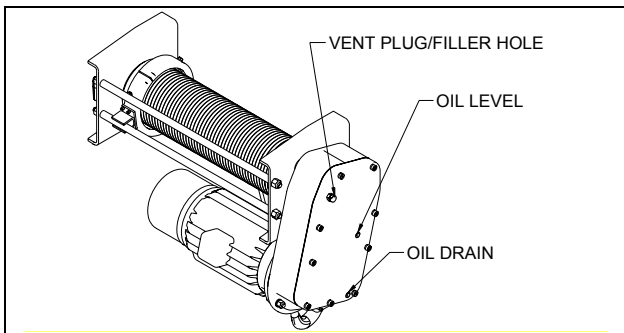

FIGURE 4-1. Location of Oil Plugs.
- Check oil level by removing the plug indicated in Figure 4-1. When properly filled, oil should be level with the bottom of the tapped hole. Fill to this level with oil.